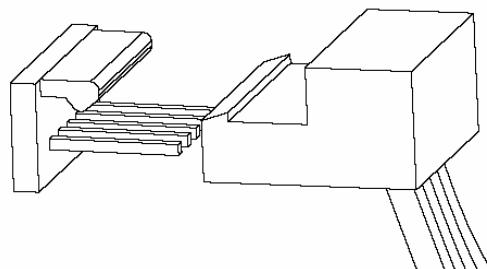

Fig. 5
17. The new circuit will have a wire harness/potentiometer already connected. Should you need to reconnect it for any reason, be aware that the clip has a polarity that is important to observe. The correct connection orientation is shown in **Fig. 5** below. **Each circuit is supplied with its own wire harness - the wire harness must only be used with the circuit it is supplied with.**